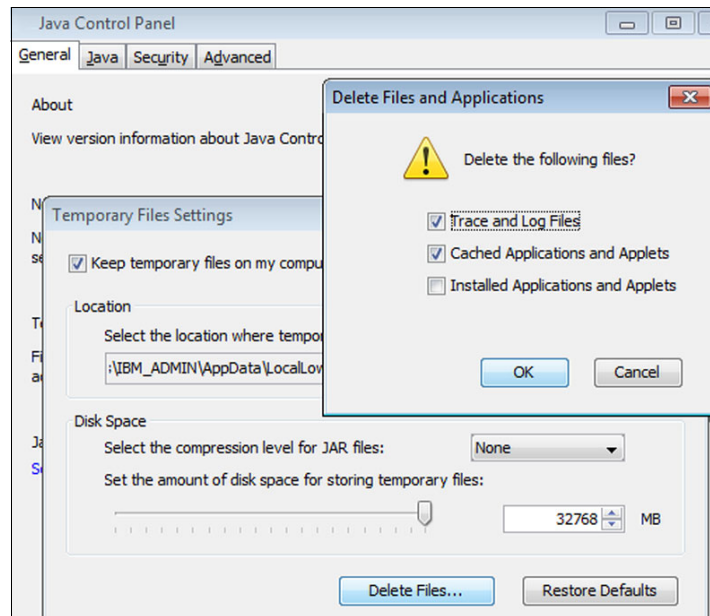

Figure 3-2 Java Temporary Internet Files delete dialog
3. Click **Delete Files** to remove the temporary files that are used by Java applications (see Figure 3-2).